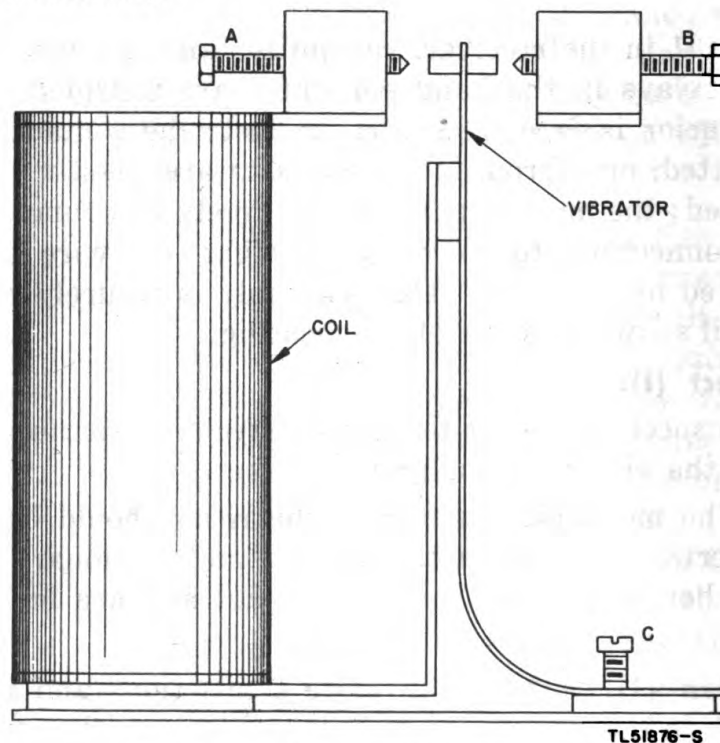

Figure 20. Adjustment of regulator relay.
d. Adjust (A). If it is necessary to adjust the regulator relay in the hand generator, proceed as follows:
(1) Adjust setscrew A (fig. 20) so that distance between the vibrator and stop is $1/64$ inch. This distance can be determined by inserting the body of Gauge TL-127 (fastened to cover of hand generator) between the contacts.
(2) Adjust setscrew B (fig. 20) so that distance between the vibrator and stop is 0.0006 inch. This distance can be determined by inserting the thin leaf of Gauge TL-127 between the contacts.
(3) Adjust setscrew C (fig. 20) to obtain required output voltage.